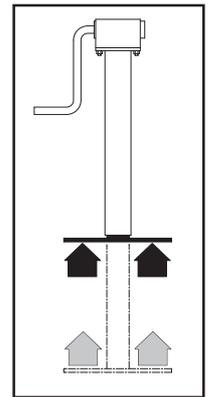

fig.2
- 3) Test the manual (MT) or electric controls (DS): opening of miller rotation door, scraper up/down movements, auger rotation foot up movement, etc.
- 4) Before moving the machine, remove the support foot (fig. 2).